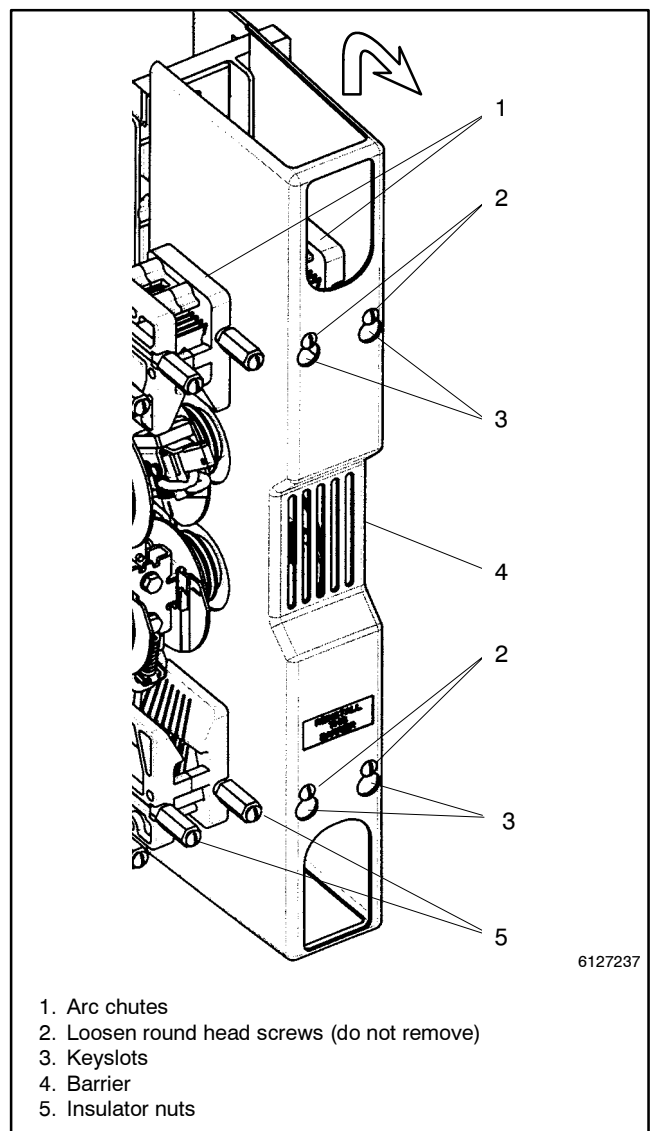

Figure 8-8 Interphase Barrier Removal
3. Remove the interphase barriers (one per pole). Use a blade screwdriver to loosen four round head screws holding each barrier to the arc chutes. Slide the barrier up until the keyholes clear the round head screws, then remove the barrier. See Figure 8-8.
4. Remove the arc chutes. Use a 5/8 in. nutdriver to remove the two long insulator nuts. Then pull the arc chute outward (off the long threaded rods). See Figure 8-8.